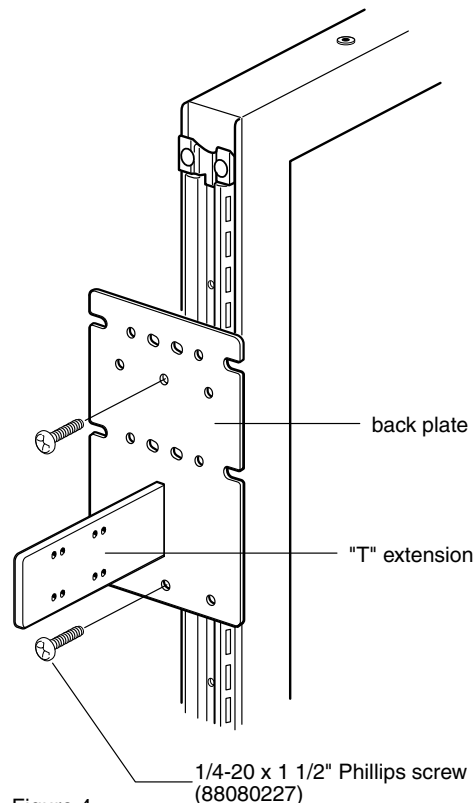

Figure 4
1. Align the 6" spaced holes in the back plate of the Power/Data Brackets with the captivators in the end of the Ultra Frame. The Power/Data Bracket should be oriented such that the "T" extension is lower than the hanger clip slots. The bracket can be mounted centered on the end of the frame, or offset to the right or left so that the edge of the plate is flush with the tube of the frame. Center mount is shown. (Figure 4)
2. Insert two 1/4-20 x 1 1/2" screws into the captivators and tighten securely. (Figure 4)